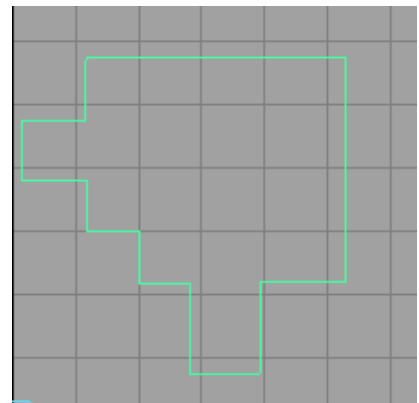

*Figure 3-113 House with complete walls and roof*
- Similarly, create another part of the roof and the side walls of the house by using the **Loft** tool to get the final output. Figure 3-113 shows the house with complete walls and roof.